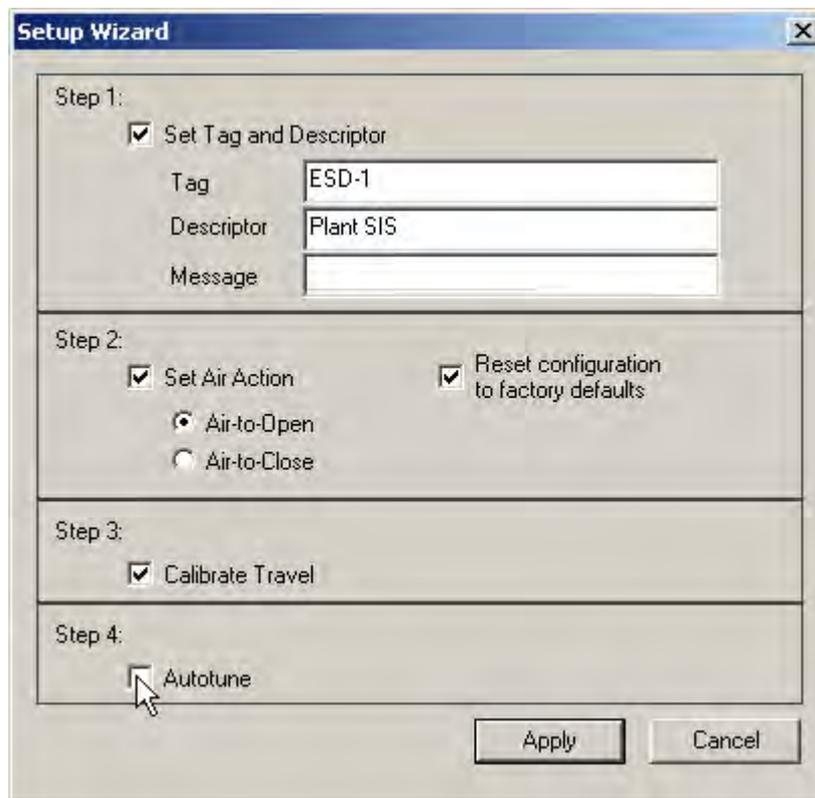

Figure 113 Enabling Autotune
- Click the **Autotune** checkbox (Figure 113).